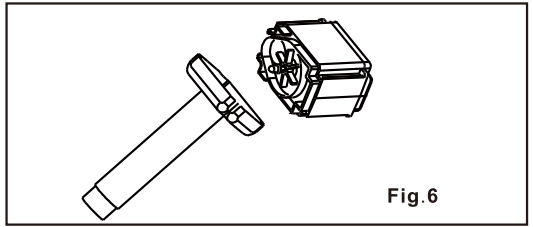

Fig.6
- ii) Slightly bend the pipe; the impeller housing will be disassembled from the pump. (Ref. To Fig. 6)